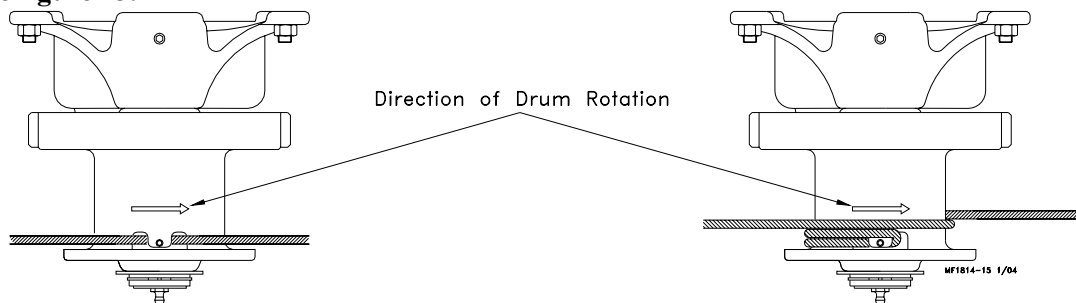

Figure 13. Cable Installation & Wrap
4. Wrap the cable through the winch drum relief located near the bottom of the drum. Tighten the set screw to anchor the cable to the drum, **see figure 13.**
5. Turn the winch drum one full revolution. Guide the cable against the flange at the bottom of the winch drum. The cable must not wrap over itself on the drum, but should be wrapped as close as possible to each previous wrap, **see figure 13.**